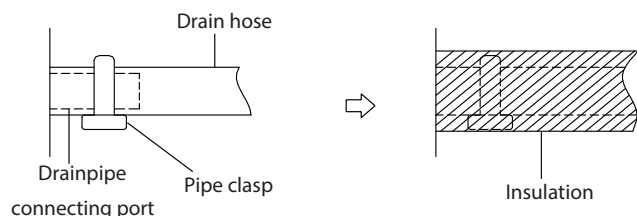

Fig. 6.1
2. Attach the mouth of the drain hose to the unit's outlet pipe. Sheath the mouth of the hose and clip it firmly with a pipe clasp. (See Fig 6.1)